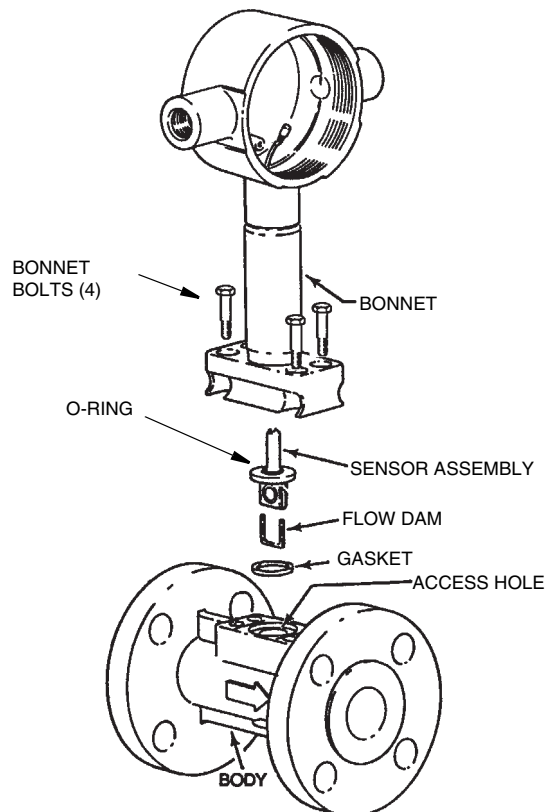

Figure 6. Sensor Replacement - Remotely Mounted Flowmeter
See Figure 6.
4. Slide the sensor assembly out of the bonnet as shown in Figure 6.